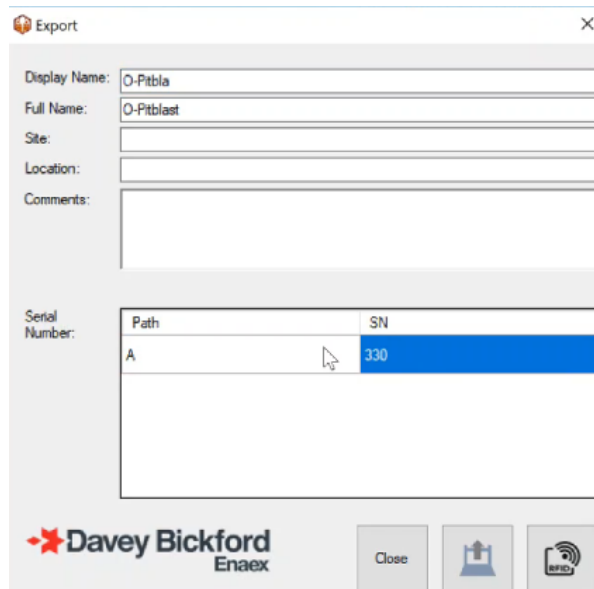

Fig. 245 - Confirmation Path-PU
4. In the end the user will have every path associated to a PU (Fig. 245);